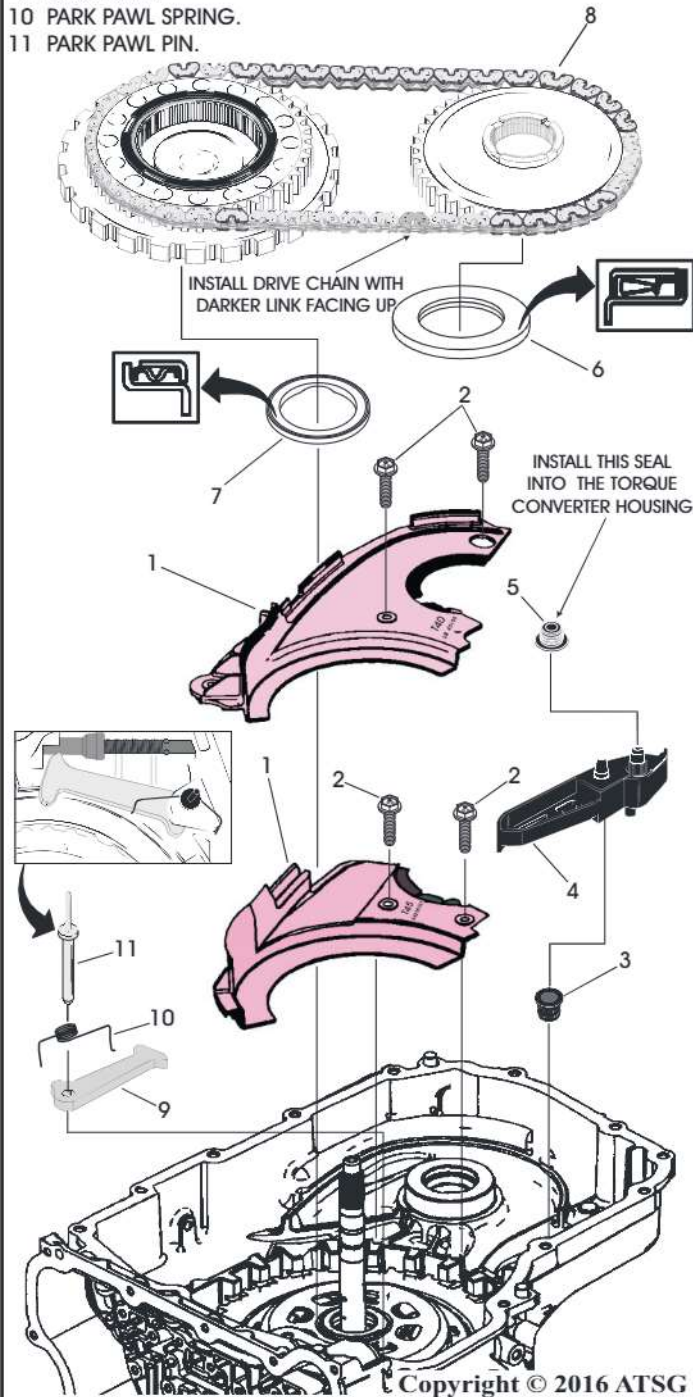

Figure 165
72. Install the front differential carrier baffle and torque the baffle bolts to 106 lb. in. (12 N·m) as seen in Figure 165.
73. Install the drive link lube scoop fluid seal into the transmission case as seen in Figure 165.
74. Install the drive link scoop. Install the drive link lube fluid seal into the torque converter housing as shown on Page 116, Figure 169. Install the park pawl, spring, (See Insert), and pin as seen in Figure 165.
75. Lubricate and install the driven sprocket bearing onto the transmission case and the driven sprocket bearing over the input shaft onto the output sun gear as shown in Figure 165.
76. Install the sprocket and drive chain as an assembly with the darker link facing up as shown in Figure 165.
- 9 DRIVE LINK LUBE SCOOP SEAL (Refer to Page 114, Figure 165).